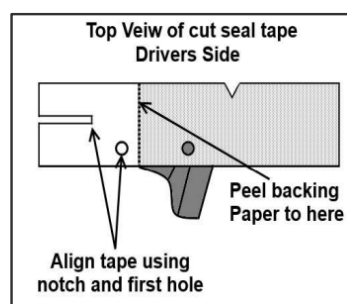

Figure 17
- Partially peel the backing paper from the driver's side seal. Align the notched section and the first hole to the vehicle and apply the seal tape to cover the gap between the headboard and the cabin end of the tub. **Refer Figure 17**.